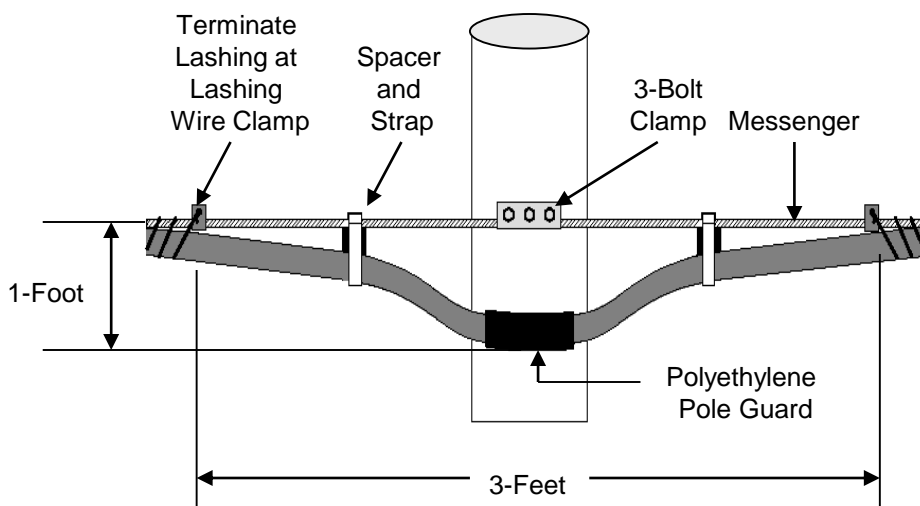

Figure 27
20.2.4 Slack loops at poles are required to accommodate thermal expansion and contraction movements. Loosen lashing or cable ties about 1-1/2' from either side of the pole to allow slack loop to move easily. **See Fig. 27.**